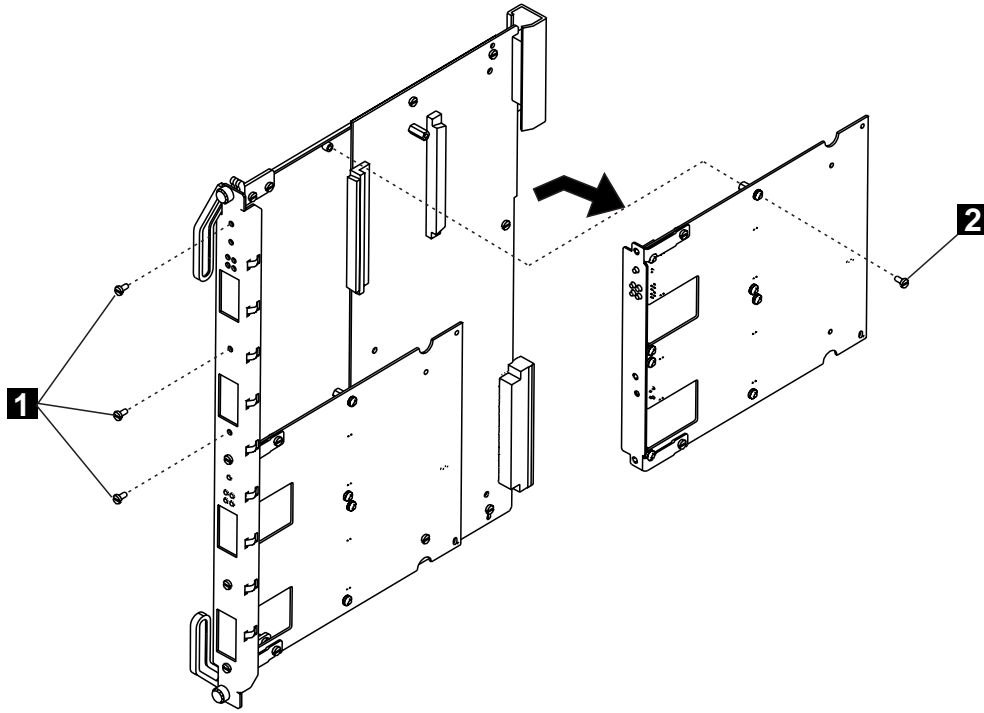

Figure 10. Removing the Motherboard
- **2** Detach the motherboard on which you want to install the I/O card by removing the four screws (**1** and **2** in Figure 10 on page 19) that hold the motherboard to the module. Retain the screws for reattaching the motherboard.